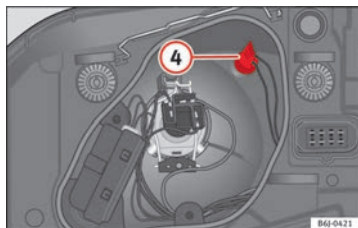

Fig. 160 Side lights.
- Remove the bulb holder ④ ⇒ Fig. 160 outwards.